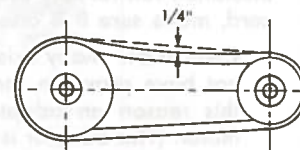

Figure 3
- Adjust the belt tension so that pressure of fingers on the belt will deflect it readily as shown in figure 3. Excessive belt tension increases the load on the motor and decreases bearing life. Loose belts reduce operating efficiency and shorten belt life.